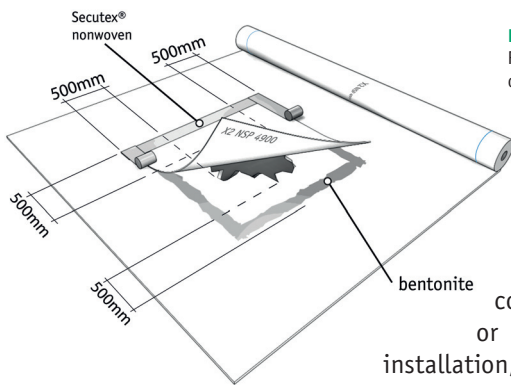

Fig. 24
21.1 In the event that an area of Bentofix® GCL becomes damaged, torn or punctured during installation, the affected area should be repaired (fig 24).